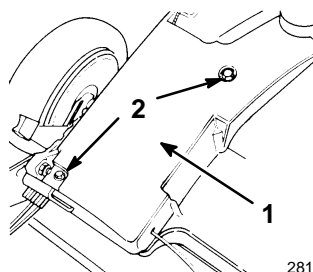

Figure 25
1. With the engine turned off, remove the two bolts securing the belt cover (Fig. 25) to the mower housing.